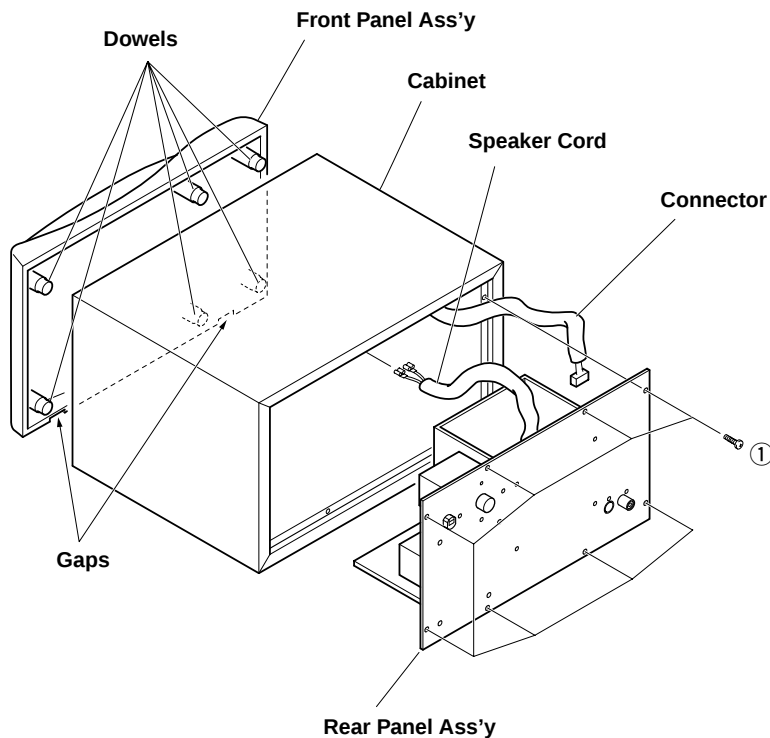

Fig. 1
- Remove 8 screws (①) in Fig. 1, and remove the rear panel ass'y.
- Disconnect one connector in Fig. 1.
- Disconnect the Speaker cord in Fig. 1.